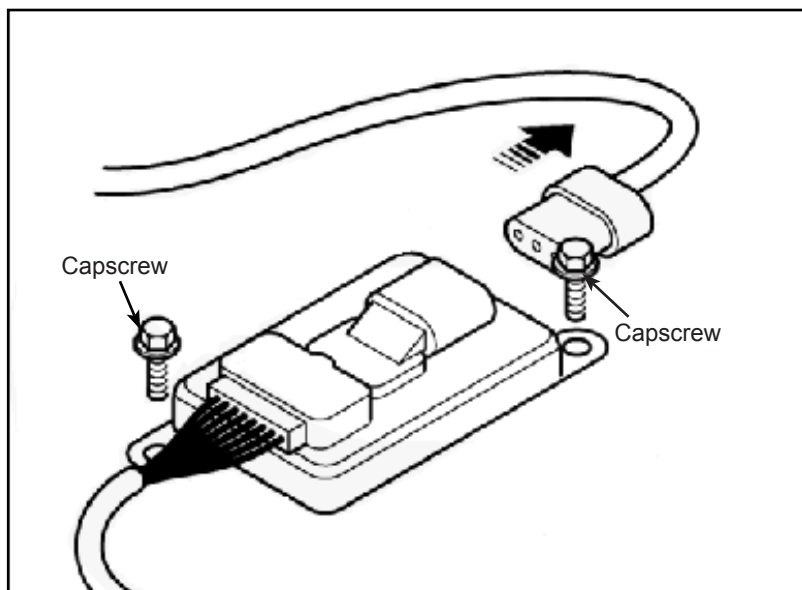

Figure 4 - Typical View of Unplugging the Sensor
- 1.6. Disconnect the wiring harness on the side of the SCR unit after removing the capscrews (see Figure 4). Retain the capscrews.